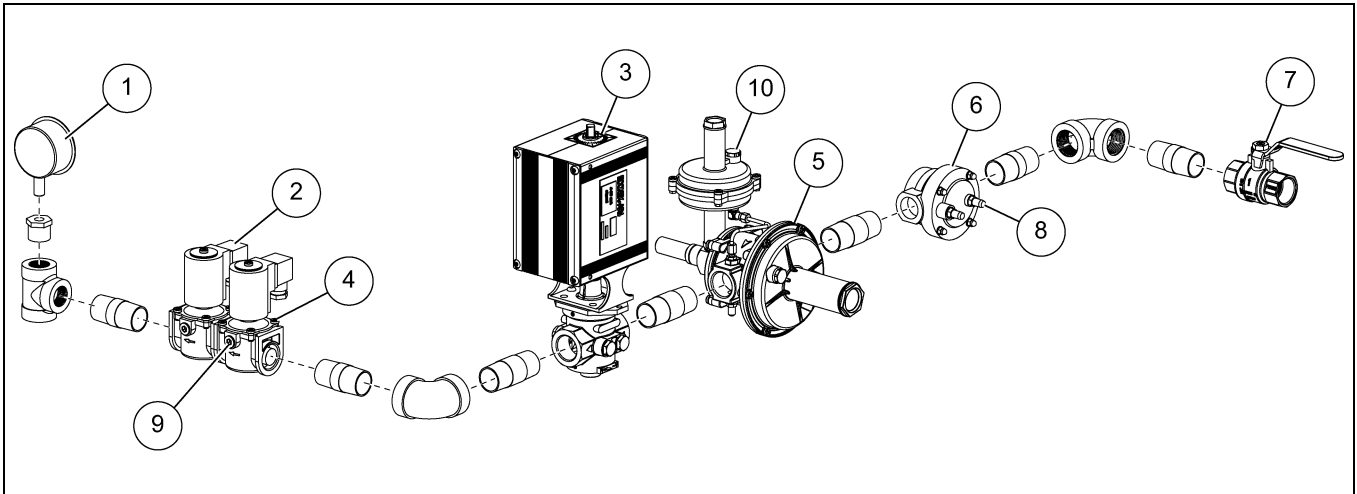

Figure 4N Fuel Train
1. Remove cover (1) from regulator adjuster.
3. Open pressure test point and fit manometer. (See Ref #9 in Figure 4N on Page 31.)
6. Re-fit adjuster cover and close test point. (See Ref #9 in Figure 4N on Page 31.)
3. Note the pressure on the pressure gauge. *(See Figure 4N on Page 31.)*